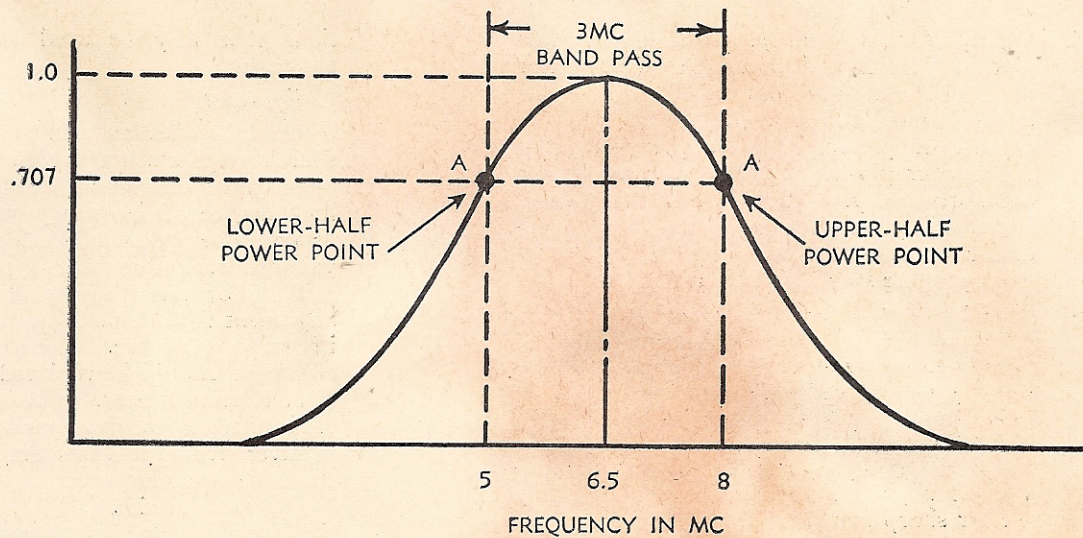

Figure 1—Typical Tuned R F Stage Response Curve
1. *Band Pass.* One of the major marker generator functions is to check the band pass of different circuits in a television receiver. Continual reference is made to the bandpass of various circuits throughout technical articles as well as actual receiver alignment data. Consequently, the term "band pass" should be well understood in the serviceman's mind. Band pass is specified for the rf section, video if amplifiers, and the sound if amplifiers. The generally accepted definition of band pass is illustrated in Fig 1. It may be defined as the numerical difference between the two frequencies at which the amplitude is equal to 0.707 of the maximum wave amplitude. The two points, A and A' on the response curve, represent 0.707 of the peak amplitude and are known as half-power points. The marker pip is moved to point A and then to point A'. The difference in frequency is the band pass of the stage. For example, if the marker pip indicated that point A (lower-half power point) has a frequency of 5 mc, and that point A' (upper-half power point) has a frequency of 8 mc, the band pass is 3 mc.